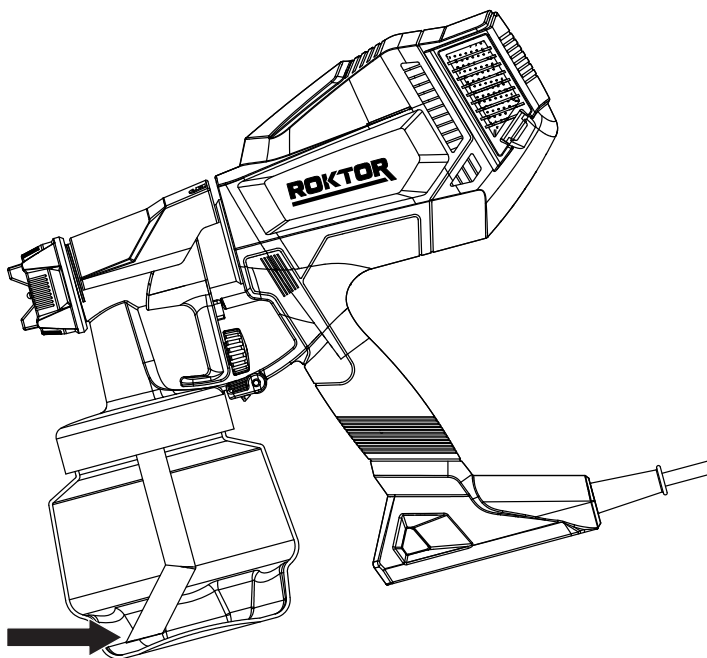

Fig. 3
2. ALIGNING THE SUCTION TUBE (SEE FIG. 3 & 4)
- 2b) If you are going to be spraying in a downward direction, the angled end of the suction tube should be pointing toward the front of the gun. Turn the quick release lock to lock (P16) the spray gun assembly securely. **See Fig. 3**